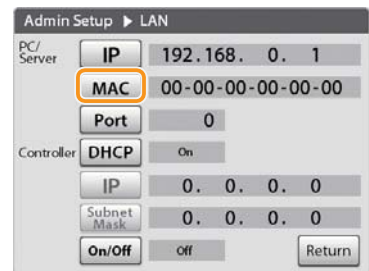

Figure 3-95
- Tap [MAC] of [PC/Server]. (Figure 3-95)